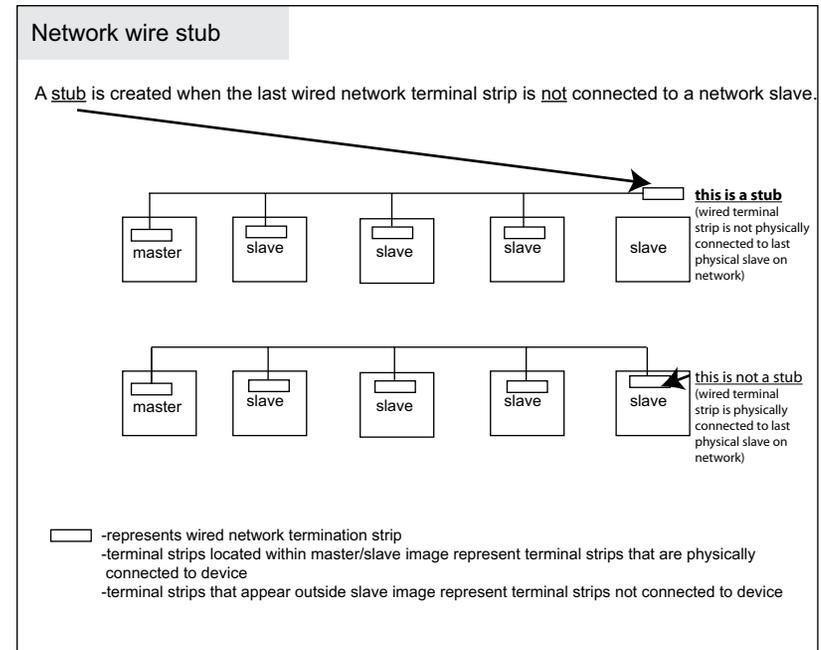

Figure 3.26
- \* A stub is created when the last wired network terminal strip is not connected to a network slave - figure 3.26. (Common lettering references are used for both 5400 and 5500 models).
- \*\*A stub is created when the last wired network terminal strip is not connected to a network slave - figure 3.26.